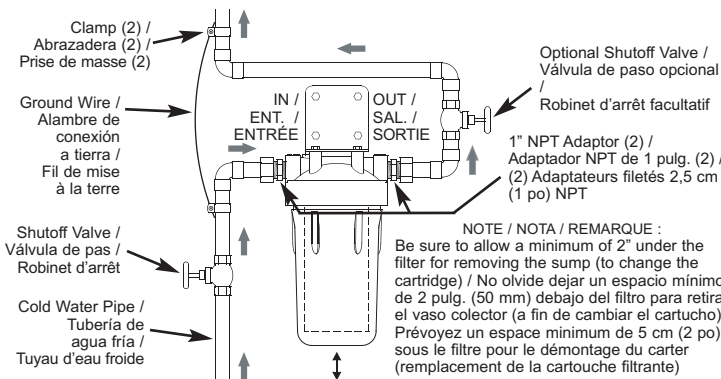
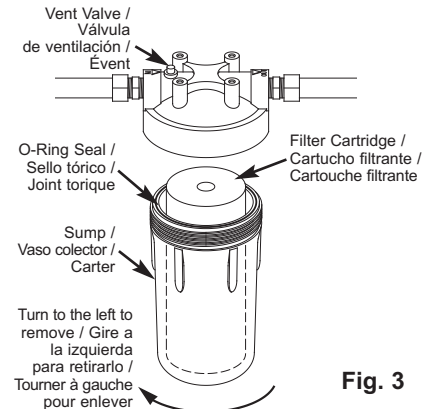

Fig. 1
Fig. 3
To filter water to a faucet, install the undersink filtration system on the COLD supply water pipe to that faucet (See Figure 1).
3. Cut out a section of the COLD water supply pipe several inches long, as needed to install the filter as shown in Figure 1.
5. With the IN side of the water filter toward the incoming water, make connections, as shown in Figure 1. When tightening compression nuts, be sure to use a second wrench to hold the 1" NPT fitting while turning the nut.
The house cold water pipe is often used to ground electrical outlets in the home. Grounding protects you from electrical shock. Installing the water filter may have broken this ground. To restore, buy and install a #4 copper wire across the filter, tightly clamped at both ends, as shown in Figure 1.
1. Close the water supply shutoff valve to the filter (See Figure 1). To relieve pressure in the filter, press the vent valve on top of the filter head (See Figure 3) or open a cold water house faucet downstream of the filter.
2. Turn the sump to the left to remove from the head (See Figure 3). Be careful, as the sump is full of water. Do not lose the large o-ring seal.
8. Partially open a house faucet downstream of the filter housing. Then, slowly open the water supply shutoff valve (See Figure 1) and allow the filter housing to fill with water. While it is filling, press the filter vent valve to release air in the filter.
Pour filtrer l'eau d'un robinet, installez le système de filtration à montage sous l'évier sur le tuyau d'arrivée d'eau FROIDE de ce robinet (voir figure 1).
3. Coupez une section du tuyau d'arrivée d'eau FROIDE sur plusieurs centimètres, assez pour installer le filtre tel qu'illustré à la figure 1.
1. Fermez d'abord l'arrivée d'eau du filtre (voir figure 1). Pour relâcher la pression à l'intérieur du filtre, appuyez sur l'évent situé sur le dessus de la tête du filtre (voir figure 3) ou ouvrez un robinet d'eau froide en aval du filtre.
2. Tournez le carter vers la gauche pour le séparer de la tête (voir figure 3). Prenez garde, car le carter est rempli d'eau. Ne dégagez pas le grand joint torique.